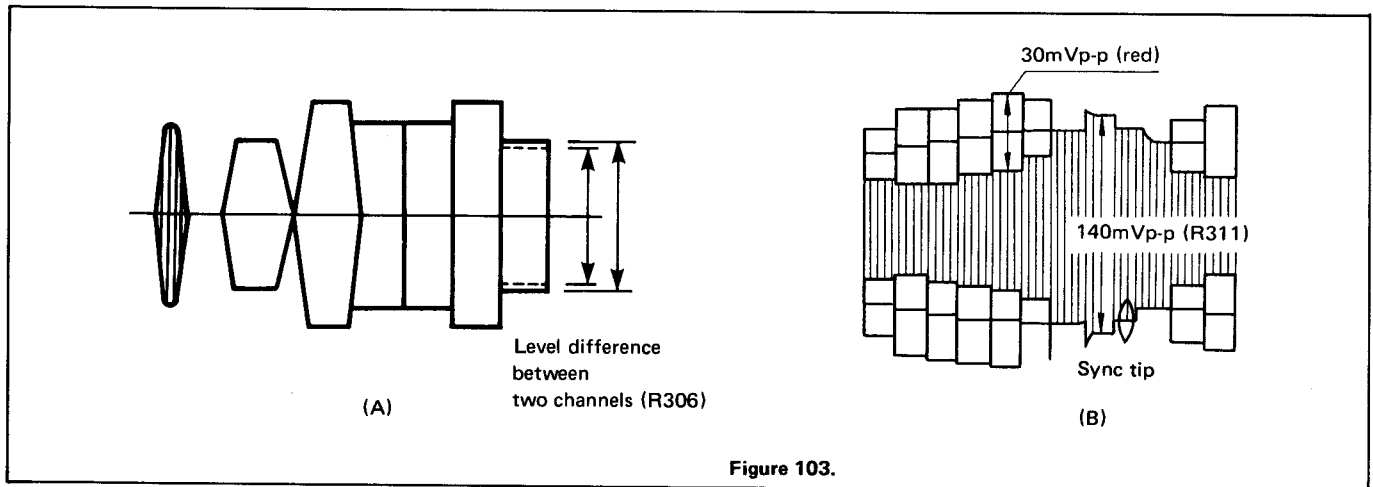

Figure 103.
- 4) Adjust R306 (record balance control) so as to make the two channels well balanced as shown in Fig. 103 (A).
5. Adjust R311 (record FM level) so that the output level will be 140mVp-p at the sync tip as shown in Fig. 103 (B).
6. Adjust R313 (record chroma level control) so that the red signal output will be 30mVp-p as shown in Fig. 103 (B).